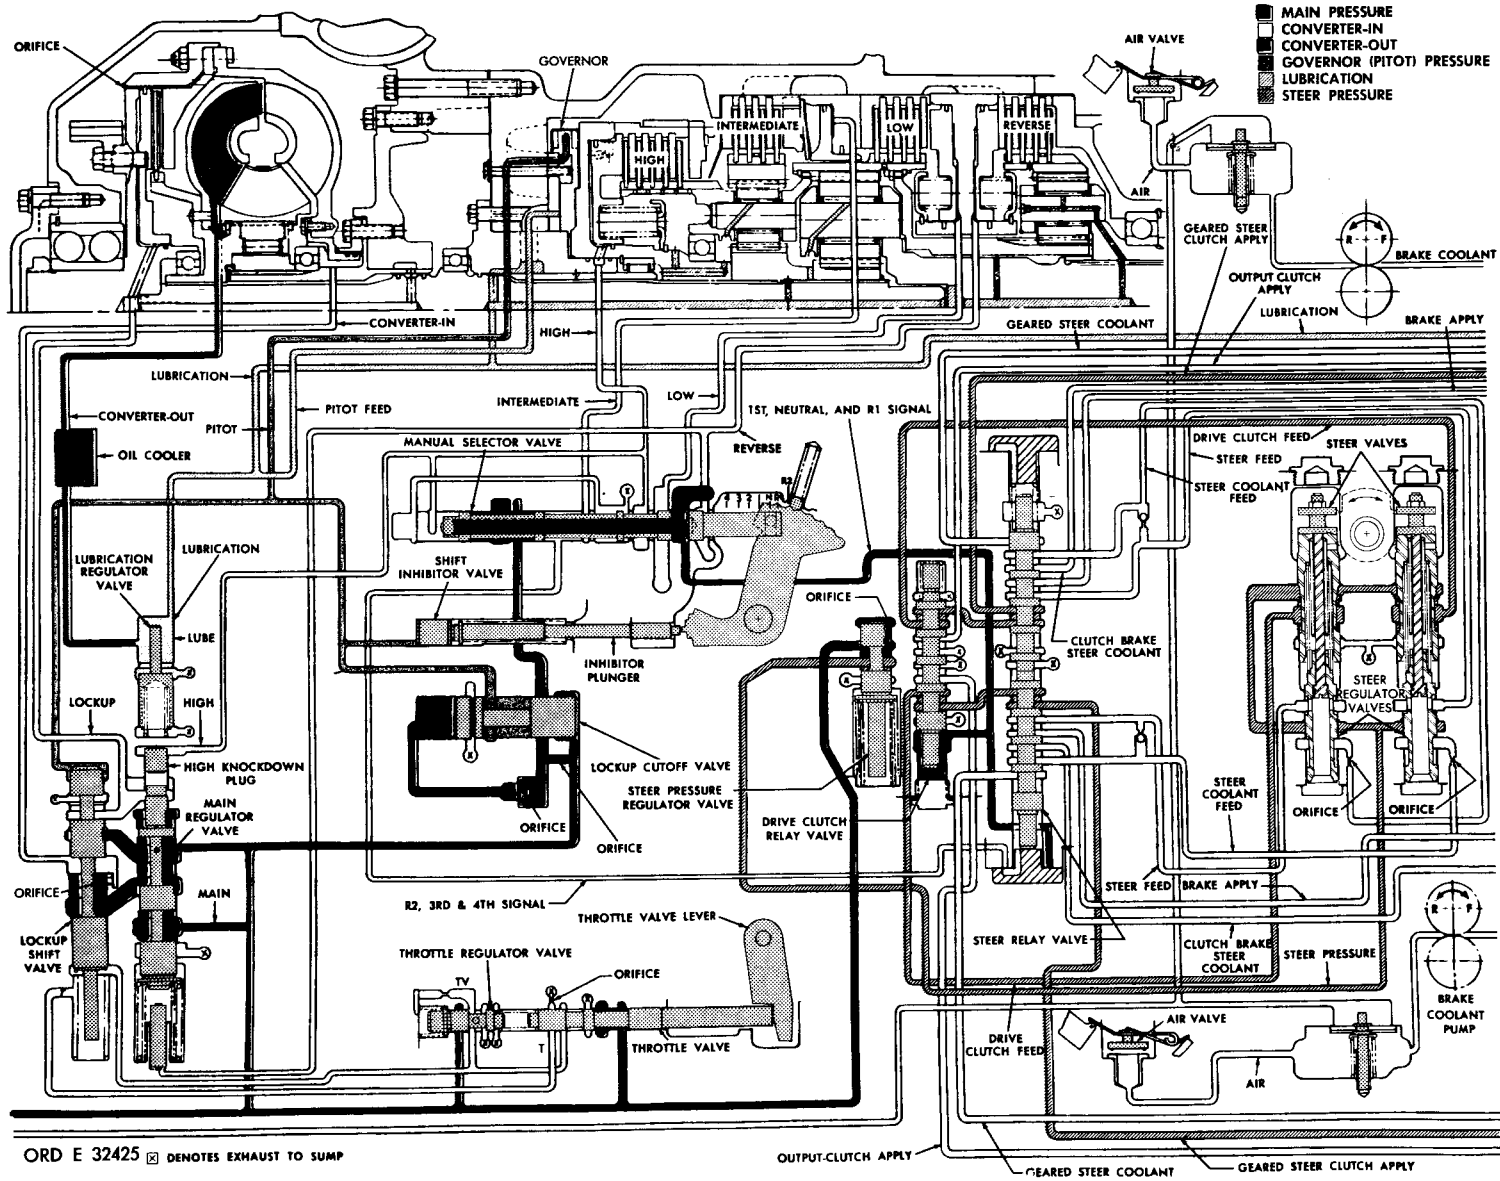

Figure 6. Hydraulic system, neutral range — schematic view
(figs. 6 through 19, and fig. 372-fold-out 1)
(1) The hydraulic system, because of its importance to the operation of the power train, should be carefully studied and understood. There are 14 partial hydraulic schematics in color (figs. 6 through 19) and a fold-out hydraulic schematic (fig. 372). The colored schematics show positions of valves and moving components, and the various hydraulic circuits as indicated by the captions. The fold-out schematic, in black and white, shows the entire hydraulic system.
(2) Hydraulic schematic views (figs. 6 through 18) parallel the torque path schematic views (figs. 22 through 34) in Section III of this chapter. The hydraulic schematic views illustrate what happens hydraulically, while the torque path schematic views illustrate what happens mechanically.
(1) In the schematic views, a particular color or color variation in figs. 6 through 18, is continued in the system until it passes through a regulator or an orifice which changes the pressure of the oil.
(2) To avoid needless repetition, references are made to initial explanations. To link the hydraulic action with the corresponding mechanical action, references are made to the paragraphs explaining the mechanical actions.
(2) Two oil levels exist because air pumped by the scavenge pump is discharged into the transmission rear housing. This creates a constant air pressure on the oil in this housing. The air pressure forces the oil level down, pushing the oil into the reservoir, until air can escape into the reservoir. The upper areas of the input transfer housing and the main transmission housing are connected. A breather, located near the top of the input transfer housing, allows atmospheric pressure to be present in these housings.
30. HYDRAULIC SYSTEM FUNCTION - NEUTRAL RANGE (fig. 6)
a. In neutral range, main pressure is supplied only by the input pressure pump (pump not shown in fig. 6; see fig. 372, fold-out 1). This oil is directed to four points at all times. These points are: the main-pressure regulator valve, the lockup cutoff valve, the throttle and throttle regulator valves, and the steer pressure regulator valve. This part of the hydraulic circuit always is charged when the power train is operating.
a. Hydraulic system conditions in reverse 1 gear are the same as described for neutral in par. 30, above, and illustrated in fig. 6, except that the reverse-range clutch is engaged and the vehicle is moving in reverse.